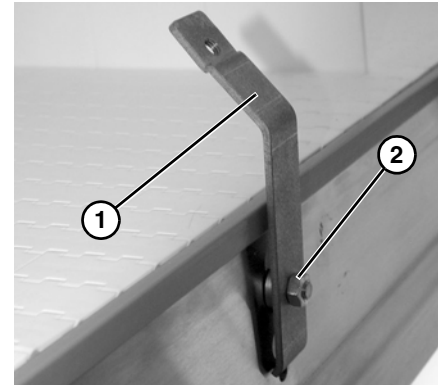

Figure 18
2. Attach the guide mounting brackets (**Figure 18, item 1**) to the conveyor with hex nuts (**Figure 18, item 2**). Hand tighten only at this time.